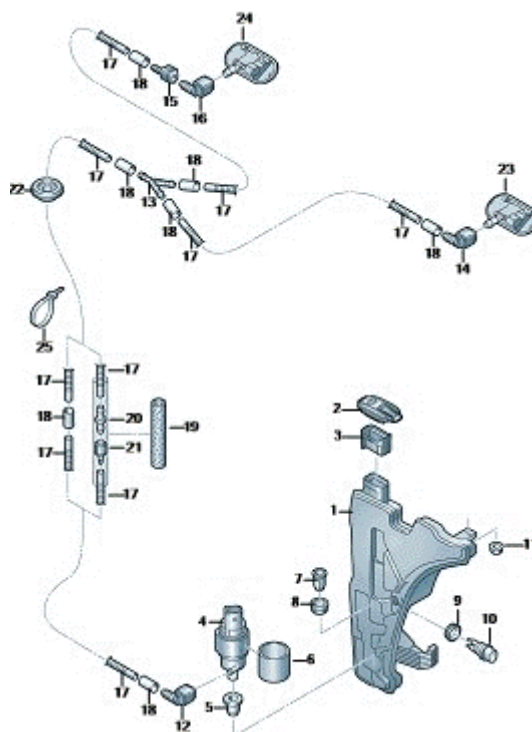

Figure 3. ETKA illustration of windshield washer hose repair components.
3. The repair components can be found in ETKA using the VIN of the vehicle being serviced. Figure 3 shows the typical illustration found in ETKA.